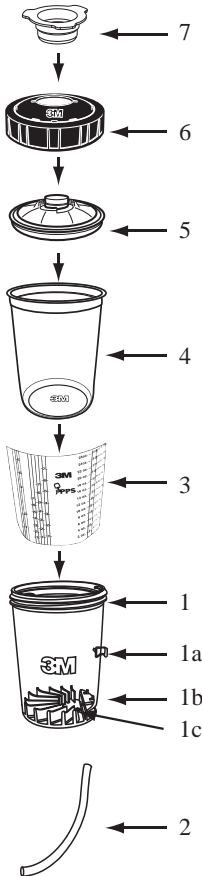

Figure 2
- Use Only Genuine 3M Parts and Accessories. Reference Figure 2 Component Listing.